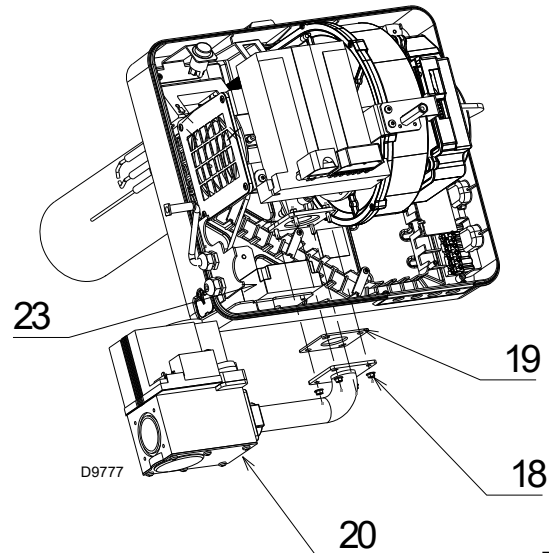

Fig. 16
- Connect the high voltage cables to the transformer 23)(Fig. 16), and the ionisation probe lead to the appropriate cable emerging from the control box.
- Fix the train assembly 20)(Fig. 16) using the 4 screws 18) provided.
Be aware of the presence of the gasket 19)(Fig. 16) and the gas seal.